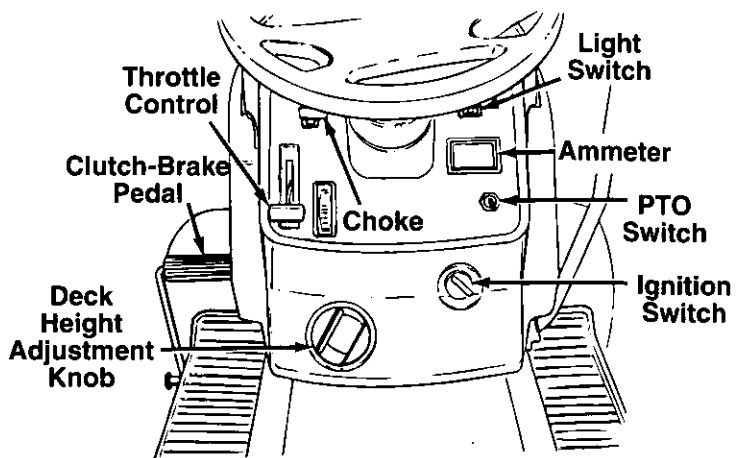

FIGURE 9.
The ignition switch is located on the dashboard. Turn the key to the START position to start the engine. When the engine is running, leave the key in the ON position. To stop the engine, turn the key to the OFF position. See figure 9.
The throttle control is located on the left side of the dashboard and is used to regulate the engine speed. See figure 9. The engine should be operated from 3/4 to full throttle (FAST) when operating any equipment that uses the tractor engine as a source of power such as the mowing deck, snow thrower or rotary tiller.
The choke control is located on the right side of the dashboard and is operated manually. Details for the choke operation are covered in the separate engine manual packed with your unit. See figure 9.
The head lamps are operated by pushing the light switch located on the dashboard. The head lamps will only operate when the engine is running. See figure 9.
The ammeter registers the rate of battery charge or discharge. The ammeter will register on the discharging side with starting the engine. It should register on the opposite side (charging) when the engine is running in the fast position until the battery is completely charged. With a fully charged battery or with the engine idling, the ammeter will not show a charge. See figure 9.
The clutch-brake pedal is located on the left side of the tractor. See figure 9. Depressing the pedal returns the drive unit to neutral (N) and applies the brake.
NOTE: On Model LT-135, the lift lever *must* be in the disengaged position when starting the engine, when shifting into reverse and if the operator leaves the seat. See figure 9.